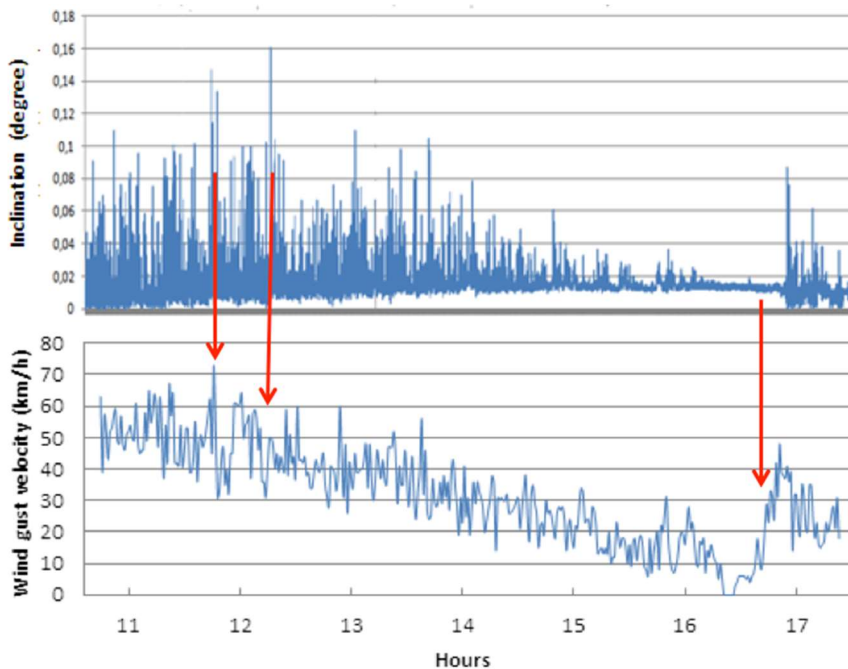

Figure 2 Time series plot of inclination and wind velocity.
2. As a result, there is no direct relationship between the wind load (wind velocity) and the immediate response of the tree, i.e. no correlation between the load and the inclination of the trunk (see Figure 2).